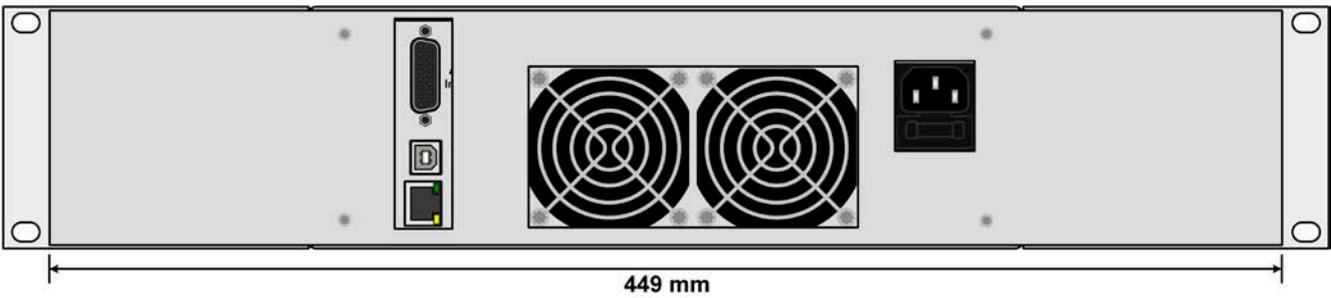

Figure 10 - Rear view after complete assembly of the mounting frame
5. Place the rear part of the mounting frame (4) on the hex spacers and fix it with 4 screws M3x6 and 4 lock washers M3 (5). Select the window which fits the EL 9000 DT rear side layout (Figure 10).